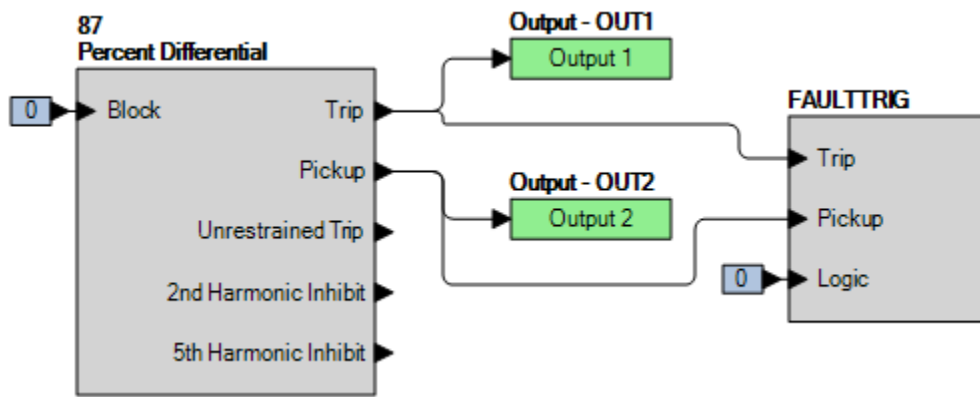

Figure 69-1. BESTlogicPlus Settings (87R)
Step 2: Use BESTCOMSPPlus to configure the BESTlogicPlus programmable logic shown in Figure 69-1.
Step 3: Prepare to monitor the 87R function operation. Operation can be verified by monitoring OUT2 (see Figure 69-1).
- Step 2: Use BESTCOMSPPlus to configure the BESTlogicPlus programmable logic previously shown in Figure 69-1.
- Step 3: Prepare to monitor the 87R function operation. Operation can be verified by monitoring OUT2 (see Figure 69-1).
- Step 1: Use BESTCOMSP $Plus$  to verify the operational settings in Table 69-1 (Maximum) or 2 (Average) and logic in Figure 69-1. Reset all targets.
- Step 1: Use BESTCOMSP*lus* to send the operational settings in Table 69-1 and verify the logic in Figure 69-1. Reset all targets.
- Step 1: Use BESTCOMSP*lus* to send the operational settings in Table 69-2 and verify the logic in Figure 69-1. Reset all targets.